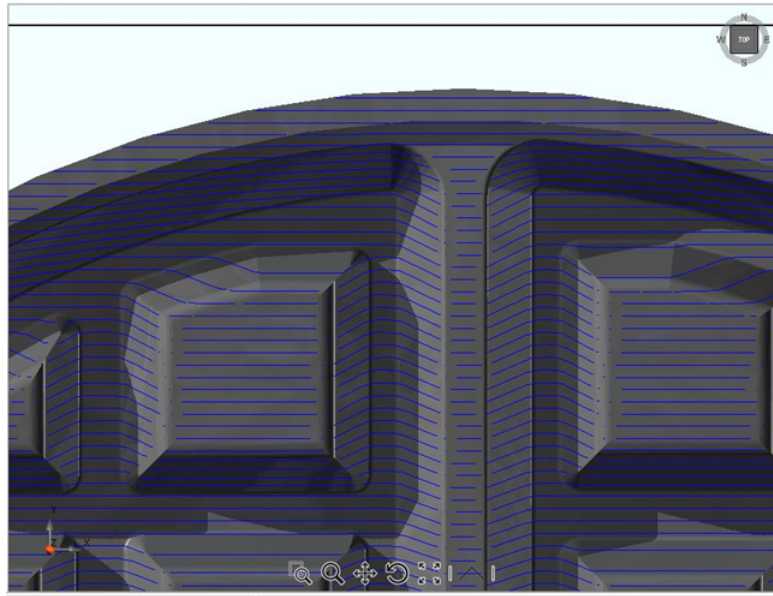

Figure 139: Uneven Fill Pitch after Projection
- a. Note that because the object is projected onto the STL model by casting a "shadow," there is a high likelihood that the original pitch defined (line to line fill spacing) will no longer be equal throughout the process object (see Figure 139 on page 149).